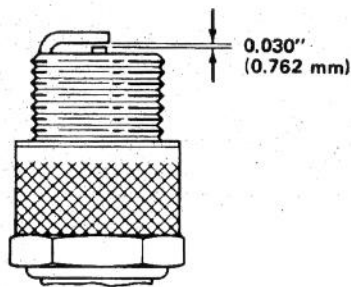

Figure 27
5. Set air gap between center and side electrodes at 0.030 of an inch (0.762 mm) (Fig. 27). Install correctly gapped spark plug w/gasket seal, and tighten plug to 15 ft-lb (20.4 N·m). If torque wrench is not used, tighten plug firmly.